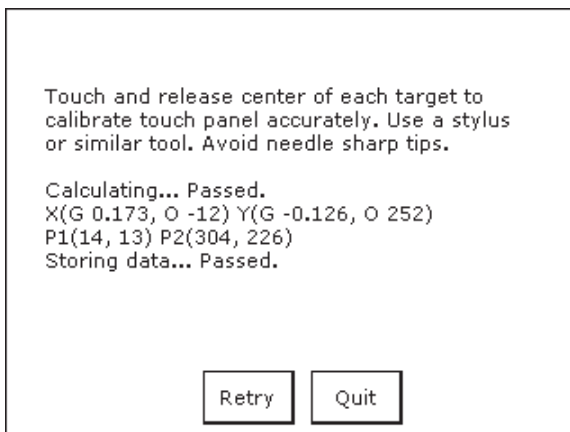

FIGURE 12-15 TOUCHSCREEN DISPLAY CALIBRATION
4. Follow the directions on the display to press the “+” at each location it flashes on the display. To exit the calibration routine press QUIT at any time. See Fig. 12-15 A, B.
5. After the touchscreen has been recalibrated the display will indicate that the calibration routine has passed. Press Quit to return to the main display. See Fig. 12-15 C.